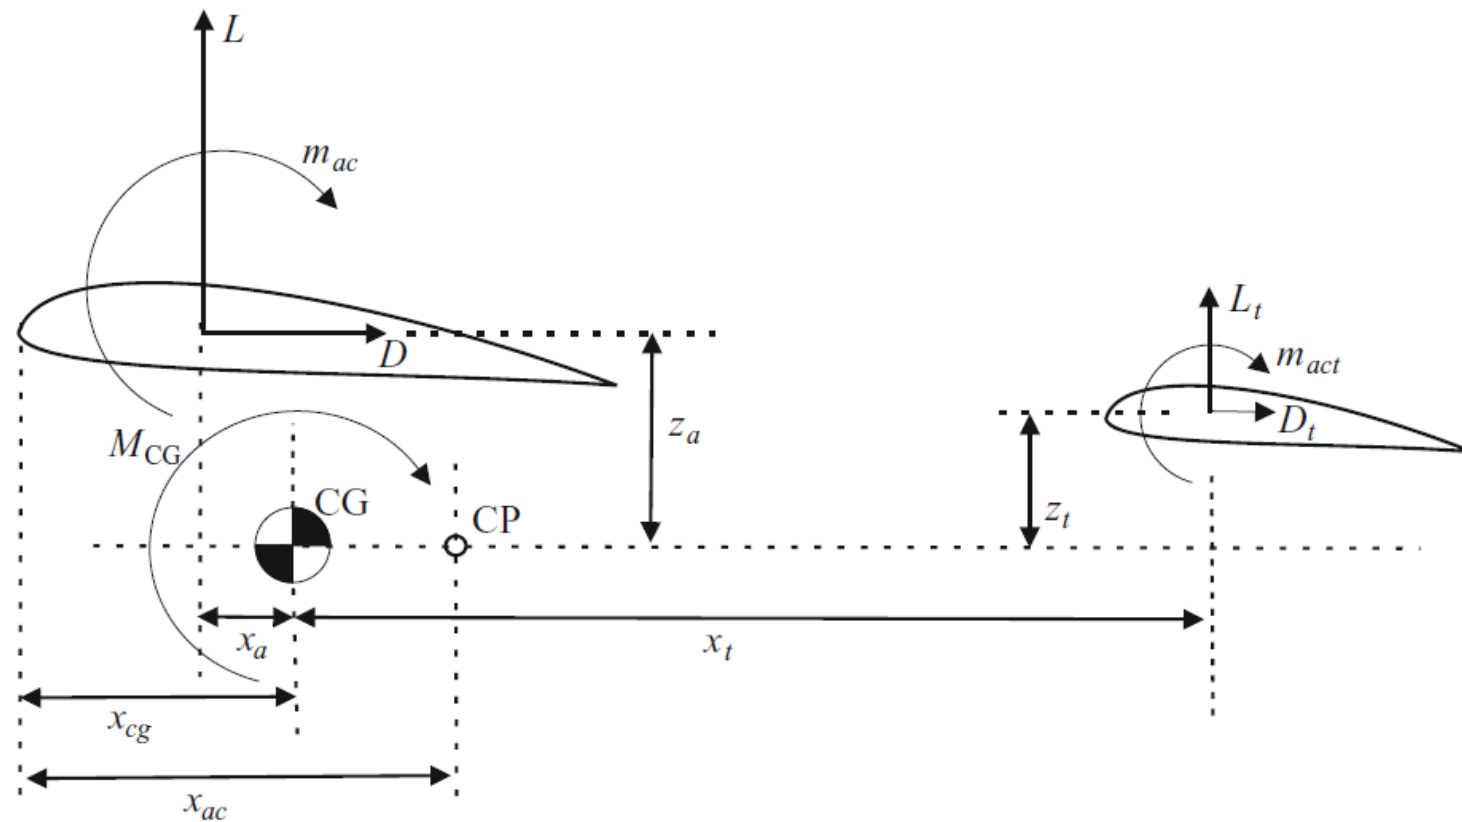

Figure 5.1 Longitudinal stability moments
- The factors that affect longitudinal stability can be determined by referring to Figure 5.1 that shows the balance of forces on the air vehicle and Equation (3.7), which is repeated below for the reader's convenience.